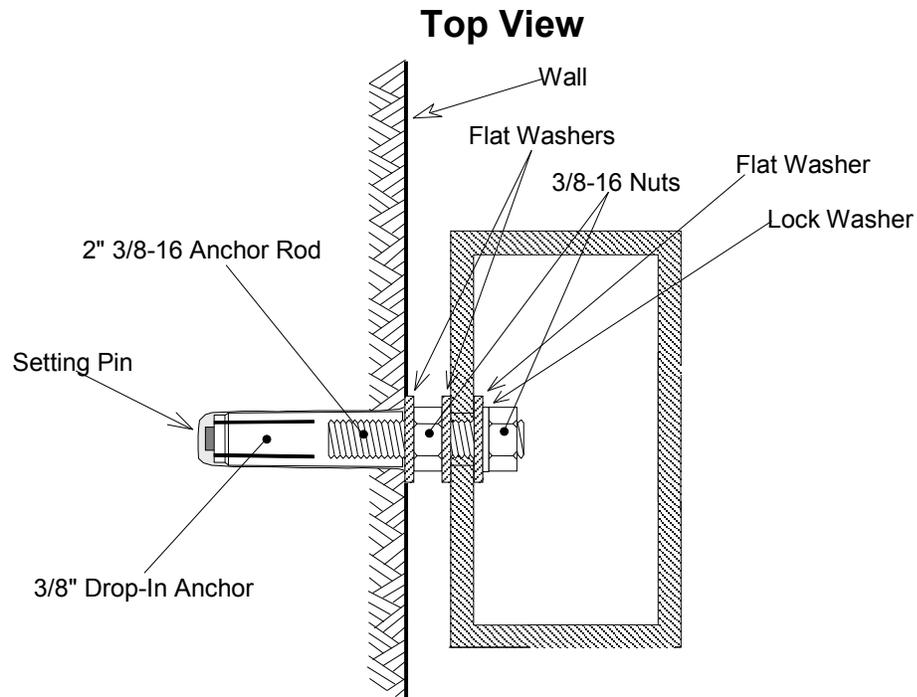

Figure 4 - Drop-in Anchor Installation (Biaxial Mounting Bracket Shown)
- 6) Attach the mounting bracket to the bolt using the supplied hardware, as illustrated in Figure 4.